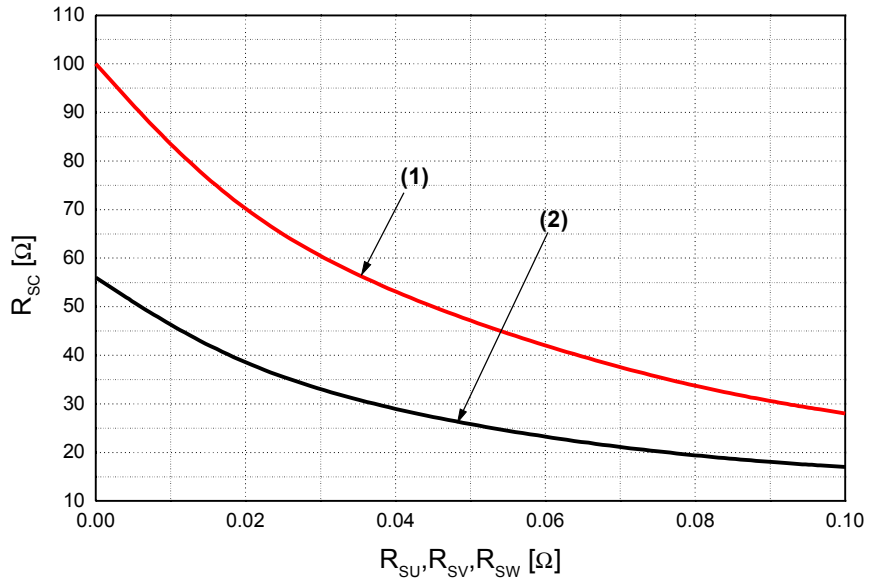

Fig. 7. R_{SC} Variation by change of Shunt Resistors (R_{SU}, R_{SV}, R_{SW}) for Short-Circuit Protection
- Short-circuit current protection is functioning only at the low-sides. It would be recommended that the value of the external sensing resistor (R_{SC}) should be selected around 56 Ω in order to make the SC trip-level of about 22.5A at the shunt resistors (R_{SU}, R_{SV}, R_{SW}) of 0Ω. For the detailed information about the relationship between the external sensing resistor (R_{SC}) and the shunt resistors (R_{SU}, R_{SV}, R_{SW}), please see Fig. 7.